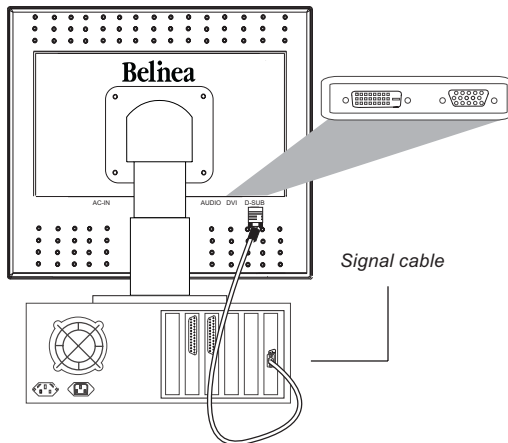
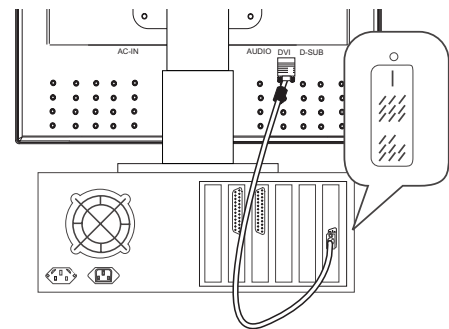

Figure 2a. Connecting the monitor to the PC
Figure 2b. Connection via the DVI-D interface
2. Connect the 15-pin signal cable to the monitor and the PC (see fig. 2a).
3. If you have a graphic card with a digital DVI-D connector (24-pin socket), then connect one end of the DVI-D cable (optional) to the DVI-D connector of your monitor (see fig. 2b), the other end to the computer.
Use the key **▼** (② in figure 4) to select the input signal. The monitor offers the following connection options: analogue graphics card via the 15-pin Mini-D-SUB port (see figure 2a); digital graphics card via the DVI-D port (see figure 2b).